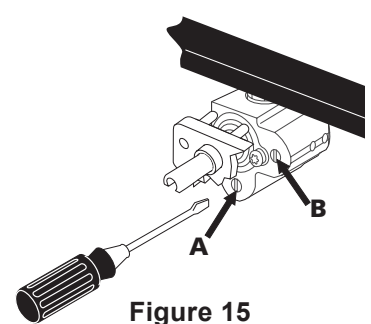

Figure 15
- The flame size on the rear portion of the bridge burner can be increased or decreased by turning screw **A**. Use screw **B** to adjust flame size of the center portion of the Bridge Burner (Figure 15). Turn the screw counterclockwise to increase flame size. Turn clockwise to decrease flame size. Adjust flame size until you can quickly turn the knob from LITE to lowest position without extinguishing the flame.